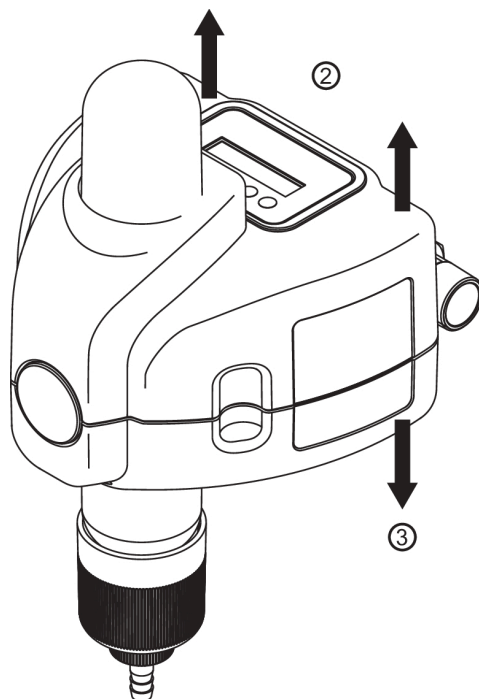

Fig. 6: Removing the casing
2. Take off the upper cover in an upwards direction (see Figure 6).
3. Push the lower cover downwards (see Figure 6).